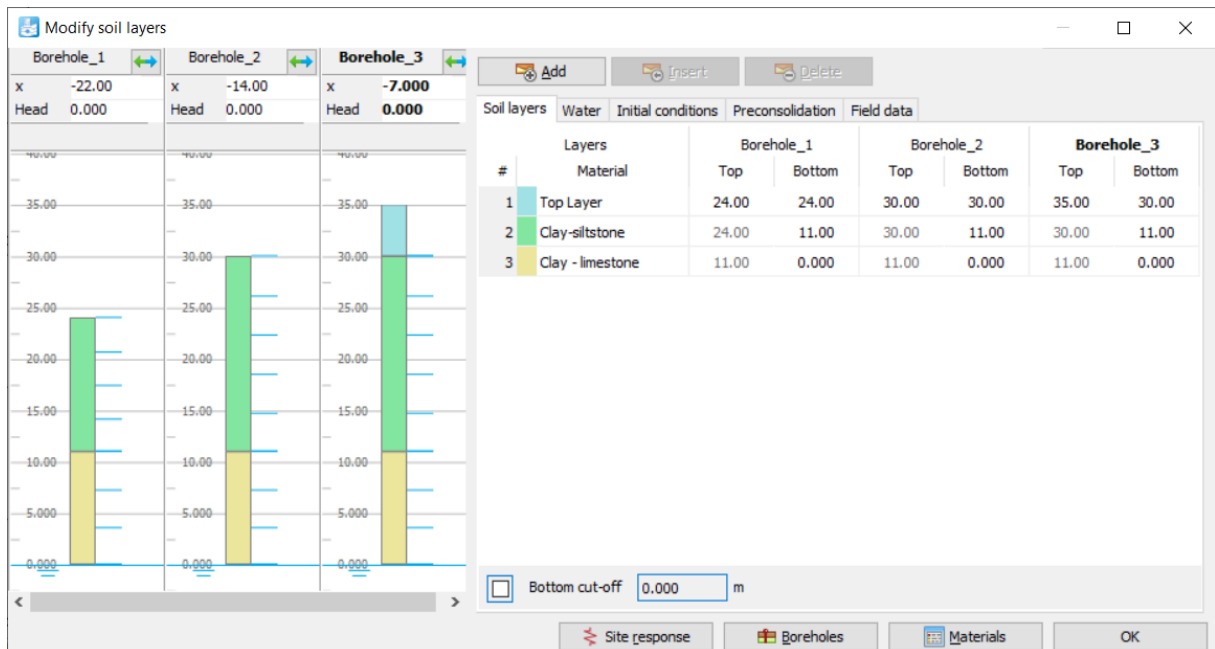
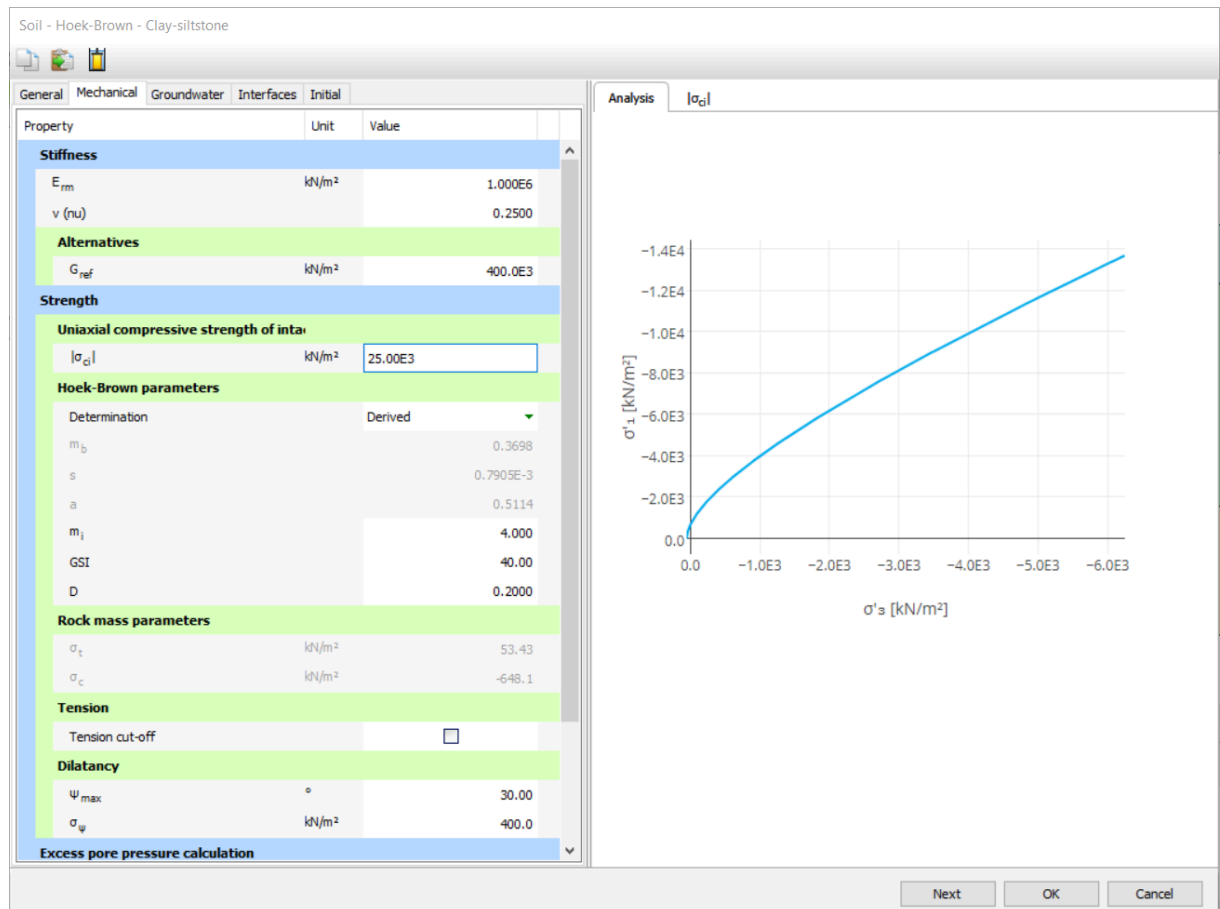

Figure 6-2: Soil layer distribution
Figure 6-3: Mechanical Parameter
- 10 Specify the soil layer distribution as shown in Figure 6-2 \(p. 110\).
- 1 Create soil material data sets according to Table 6-1 \(p. 111\) and assign them to the corresponding layer Figure 6-2 \(p. 110\). Then assign the values for the soft rock layers as per Table 6-2 \(p. 111\), find the analysis for various strength parameters from the emerging window as shown in Figure 6-3 \(p. 112\).